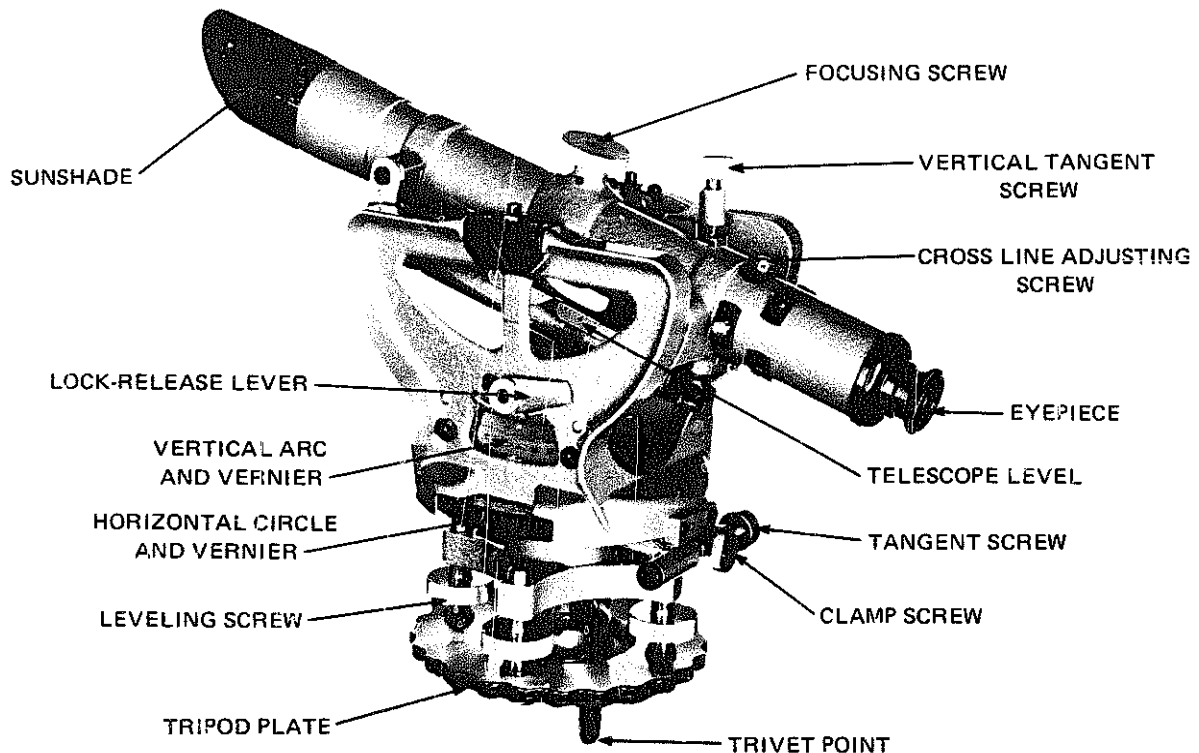

Fig. 5-49 The builders' transit-level
The parts of a builders' transit-level are shown in figure 5-49. The uses of the parts are the same as those described for the builders' level. Additional parts and their uses are as follows:
2. The following should also be observed: Never tighten the vertical clamp screw (figure 5-49) when the lock-release lever is engaged (with the lever pointing toward the objective end). Always disengage the lock when returning the instrument to its box. After the instrument is in the box, tighten the vertical clamp screw lightly.